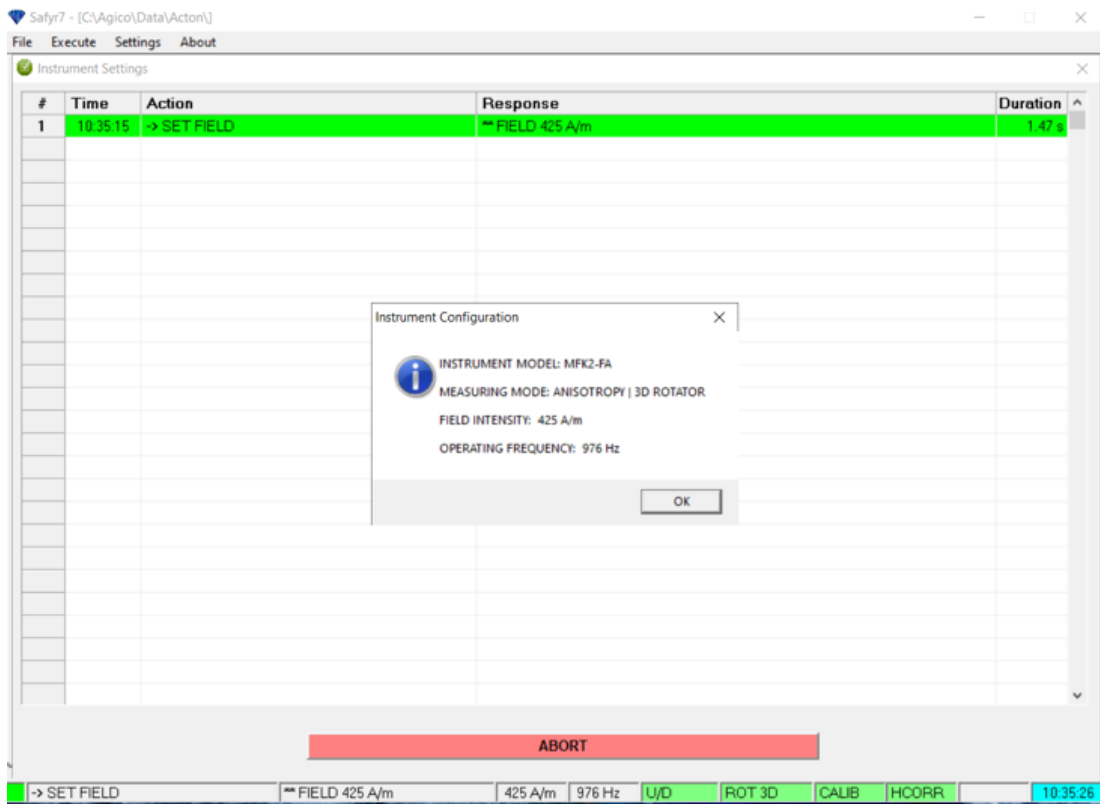

Figure 10: Instrument Configuration Confirmation Window
7. When the Instrument Configuration window appears (Figure 10), verify configuration is correct and select **OK**.